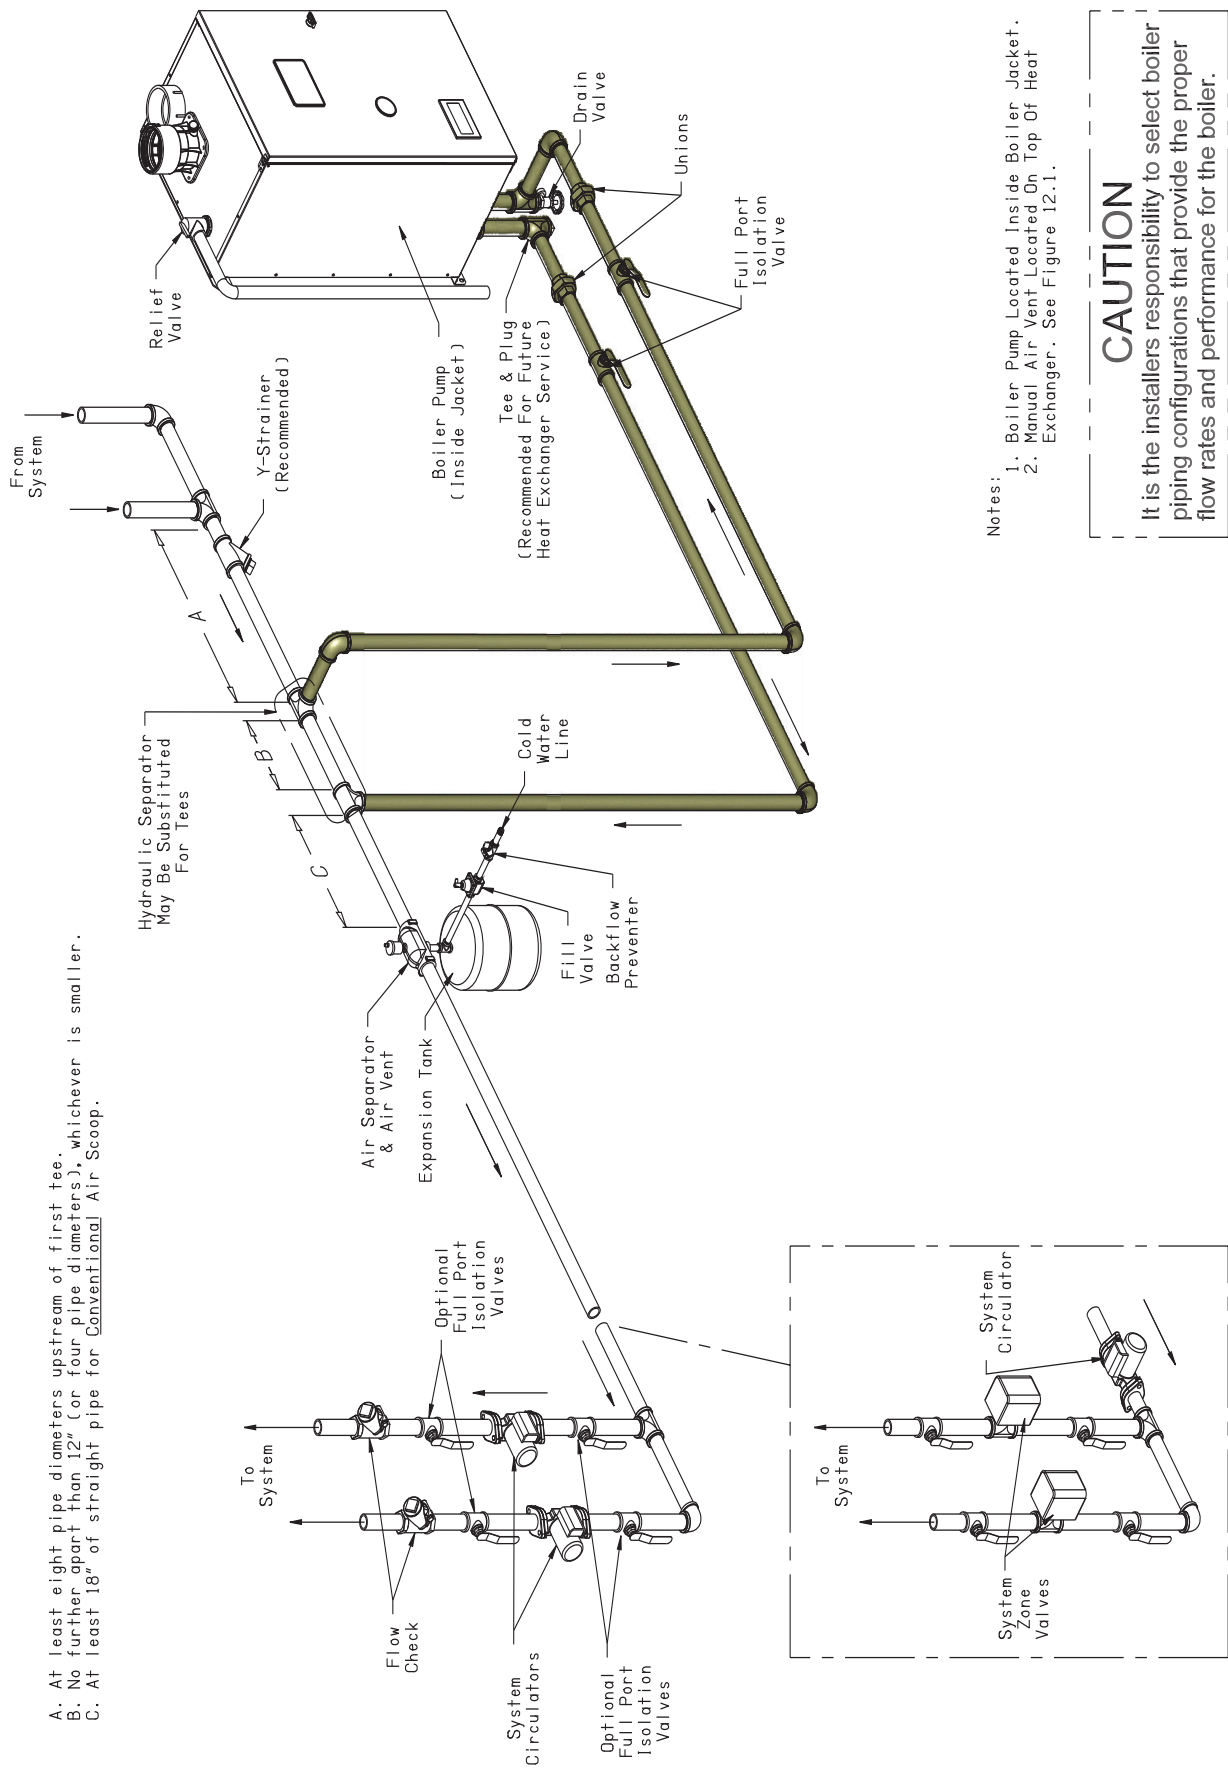

Figure 9.5: Piping Method #1 - Near Boiler Piping - Shaded Boiler Loop
- a. Count all fittings in the planned boiler loop (the shaded piping in Figure 9.5).
Example – A 135MBH model is to be connected to a heating system as shown in Figure 9.5. A total of 20 ft of straight pipe will be installed between the boiler and the system loop.
Count all fittings in the boiler loop (shaded in Figure 9.5):